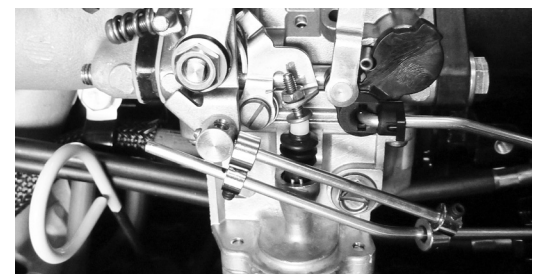

Figure 5
Step 4 - Fig 4 is for REMOTE motors, Fig 5 is for TILLER motors: